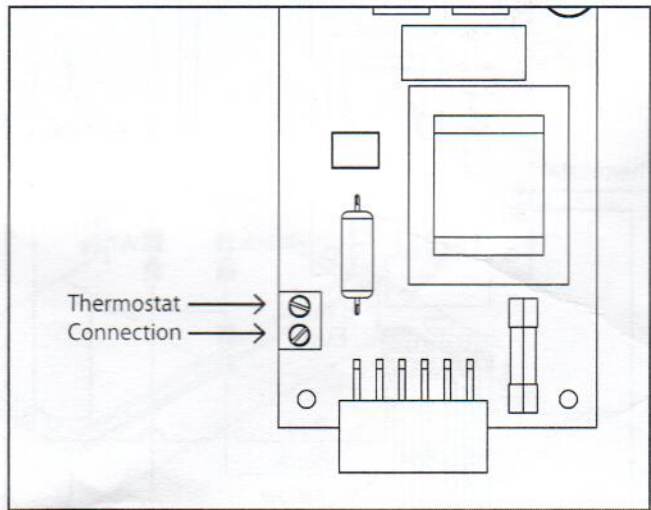

Figure 21: Back of Circuit Board
- The red wires from the HDK will have no connectors and will be wired to the Thermostat connection on the back side of the circuit board. The circuit board will need to be detached from the frame, a small flat head screw driver will be required to connect wires, see Figure 21.